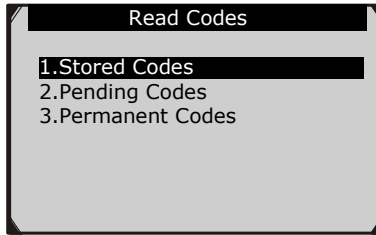

Figure 5.4
- 2) Use the **UP/DOWN** scroll button to select **Stored Codes**, **Pending Codes** or **Permanent Codes** from the **Read Codes** menu and press the **OK** button. (Figure 5.4 )